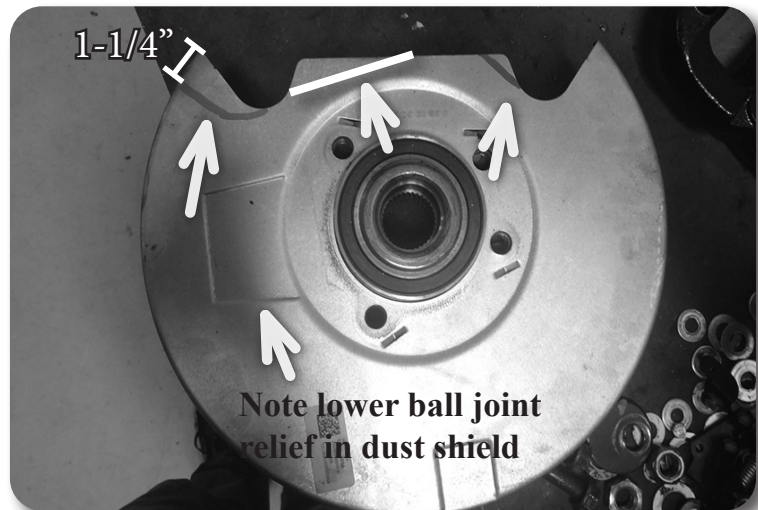

Figure 34A DRIVER SIDE SHOWN
- The brake dust shield needs to be trimmed on both the driver and passenger sides. Measure in from the lower vertical edge 1-1/4" and make a cut as shown in Figure 34A. The upper edge will need to be cut at a 45 degree angle as shown in Figure 34A on the upper right side. Figure 34 A & B show the cut to clear the brake caliper. The cuts will be mirror images on the passenger side as to what is shown in the pictures.